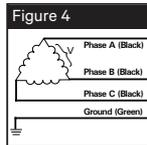

Figure 4
- 480D = 480V Delta - 3Ø 3W+Grnd, (Fig 4) & HRG Wye
- 240D = 240V Delta - 3Ø 3W+Grnd (Fig 4)
- 600D = 600V Delta - 3Ø 3W+Grnd (Fig 4) & HRG Wye (Available: 100kA)